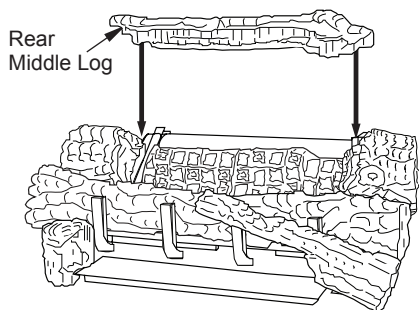

Figure 31 - Installing Rear Middle Log
7. The rear middle log (18" D-068, 24" & 30" D-042) should fit between the ramp log and the rear burner. The left and right middle logs have recessed areas for the rear middle log to sit into (See Figure 31). There may be a small gap between the rear middle log and the ramp log, this is normal. Be careful not to push the rear burner out of position while installing this log.